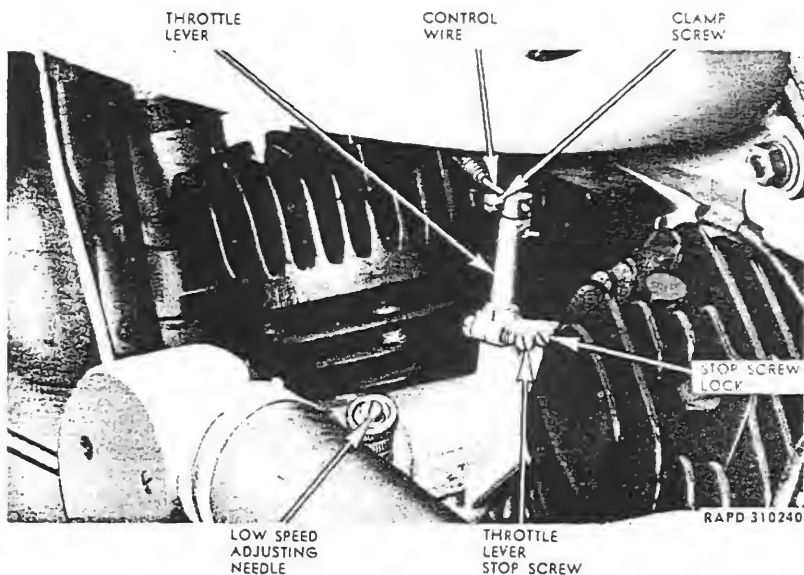
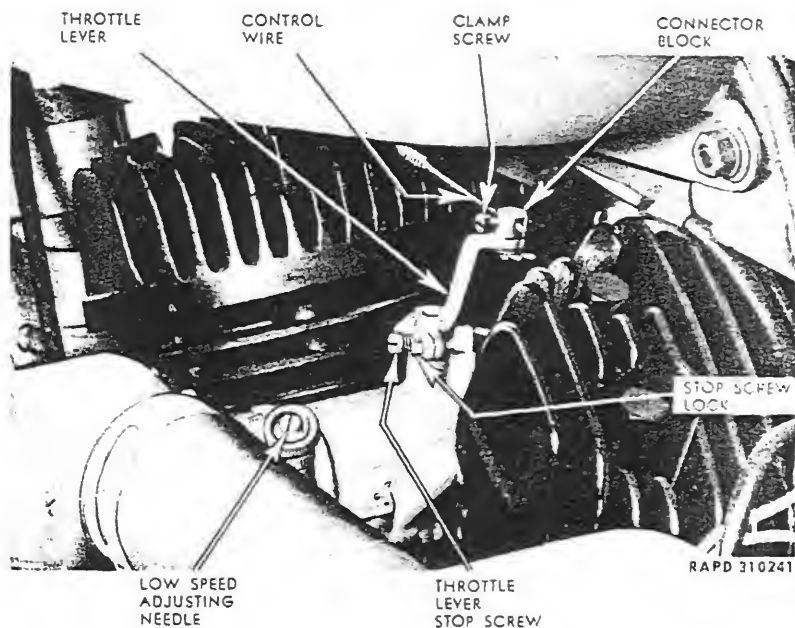

Figure 43—Throttle in Fully Closed Position
Figure 44—Throttle in Fully Open Position
68. CARBURETOR ADJUSTMENT (fig. 43).
(13) See that battery is not entirely discharged by turning on lights (tactical situation permitting) and observing brilliancy.
c. **Low Speed Adjusting Needle** (figs. 43 and 44). Adjustment of this needle valve controls only idling and low speed (up to approximately 30 mph) fuel mixture. Turn needle valve down (to right) to make mixture leaner. Back out (to left) needle valve to make mixture richer. Needle valve is held in any desired position by a spring-and-ball plunger which engages notches in the needle adjusting screw.
(1) Turn the low speed needle valve all the way down (to right).
(2) Back needle valve out (to left) about three full turns. With needle valve in this position, engine will start, but mixture will probably be too rich.
(3) Start engine as follows: After choke lever has been moved to normal open running position and engine is normally hot, correct adjustment of needle valve by turning needle valve down (to right) one notch at a time until mixture becomes so lean that engine misses, and is inclined to stop; then back out (to left) needle valve 5 to 10 notches, or until engine fires regularly with spark advanced and throttle closed (or as nearly closed as it can be set and still have engine running at idling speed).
(4) Adjust throttle lever stop screw (fig. 43) as necessary to make engine idle at proper speed with throttle in fully closed position. Turning stop screw to the right makes engine idle faster. Turning stop screw to the left makes engine idle slower. Do not idle engine at the slowest possible speed, because an extremely slow idling adjustment causes hard engine starting. Changing idling speed with throttle stop screw is likely to change the low speed fuel mixture to some extent; therefore, it will be necessary to again check and correct the low speed needle valve adjustment (step (3) above).
(5) Engine starting and all-round carburetion will be improved with low speed fuel adjustment slightly rich, rather than extremely lean.
MOTORCYCLE, SOLO (HARLEY-DAVIDSON MODEL WLA)**69. THROTTLE CONTROL WIRE ADJUSTMENT (figs. 43 and 44).**
b. **Adjust Fully Closed Throttle** (fig. 43). See that there is about 1 inch distance between end of control wire housing and throttle lever when in fully closed position, so that housing end does not interfere with forward movement of throttle lever. If adjustment of control wire housing is necessary, refer to paragraph 101. Proceed with closed throttle adjustment.
(1) Loosen control wire clamp screw in connector block.
(2) Turn right handle bar grip outward as far as it will go; then turn it inward slightly. Holding throttle grip in this position, move throttle lever forward against its stop (closed position) and secure control wire in connector block with clamp screw. Check closing of throttle after tightening control wire set screw. If necessary, reset the control wire in the connector block until throttle is closed with full outward grip movement.
c. **Adjust Fully Open Throttle** (fig. 44). Follow instructions under step b above, then:
(1) Turn right handle bar grip inward as far as it will go and see that throttle lever is against its stop in fully open position. If throttle does not open fully when grip is turned inward, reset the control wire in the connector block to correct the adjustment.